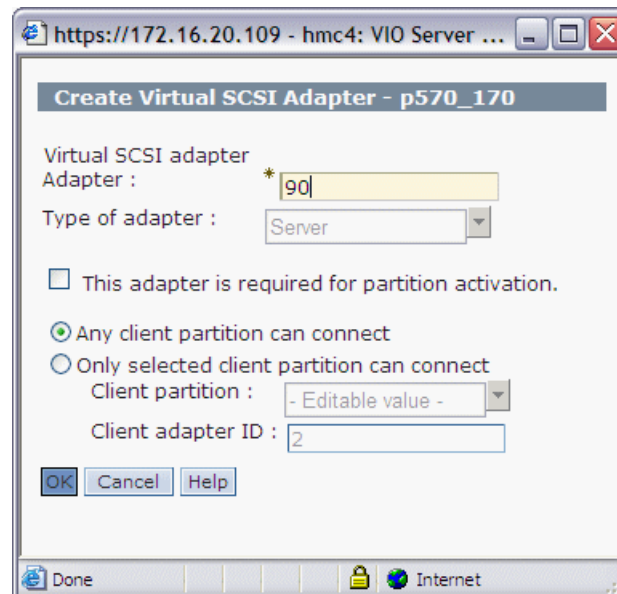

Figure 12-13 HMC Creating the virtual SCSI server adapter for the DVD
11. In the Virtual Adapters dialog, click **Actions** and select **Create Virtual Adapter** → **SCSI Adapter** to open the Create Virtual SCSI Adapter window shown in Figure 12-13.